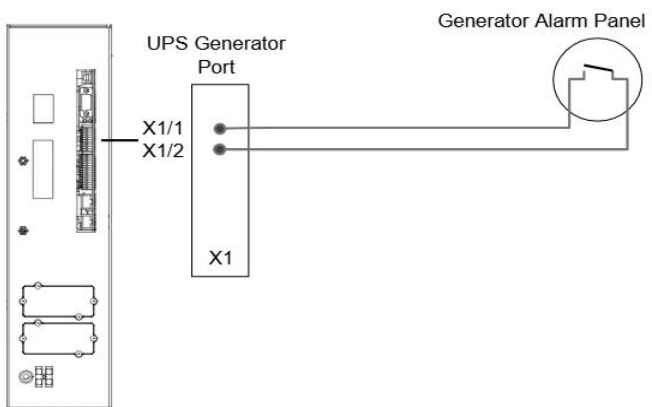

Figure 8.4 Generator ON Connection
2. Connect the cable as shown in Figure 8.4.